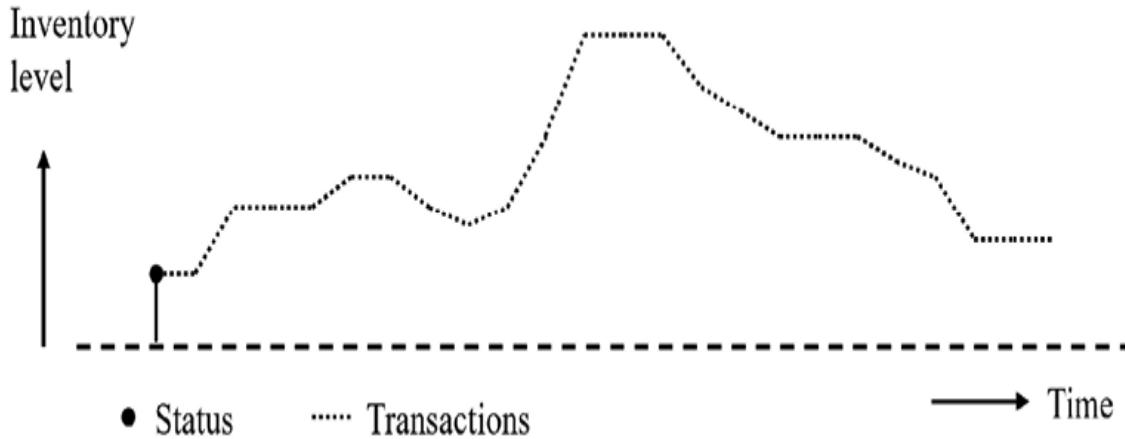

Figure 2.7.2: Storing the status once, and changes after that
- Store the initial inventory level for each product, or (plausibly) assume it to start at zero. This is the option depicted in *Figure 2.7.2*. There are two major problems with this: first, you would be forced to store all transactions for each product, even when a product was introduced 20 years ago; second, the reference level would be found at a different point in time for each product. The consequence of this is that you